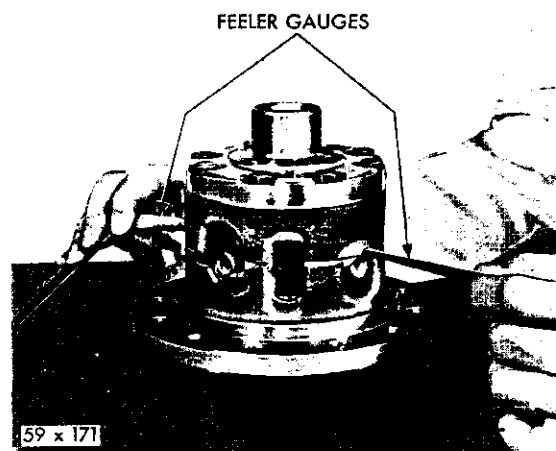

Fig. 44—Measuring Clearance Between Pinion Shafts and Case
(7) Install the axle shafts from the vehicle to align the splines. Make sure the axle shafts engage the side gear splines as well as the clutch ring splines.
(8) With the shafts installed, center the cross shafts between the two ramp surfaces in the differential case. Tighten the differential case bolts evenly by alternately turning opposite bolts until all are torque tightened to 45 foot-pounds. After assembly, slight misalignments of the splines can be corrected by moving the axle shafts back and forth until free. Remove the axle shafts.
(9) With the differential resting on one hub, insert two feeler blades, one over each end of the pinion shaft having ramps above it (Fig. 44). The clearance should not exceed .010 inch at each end of shaft.